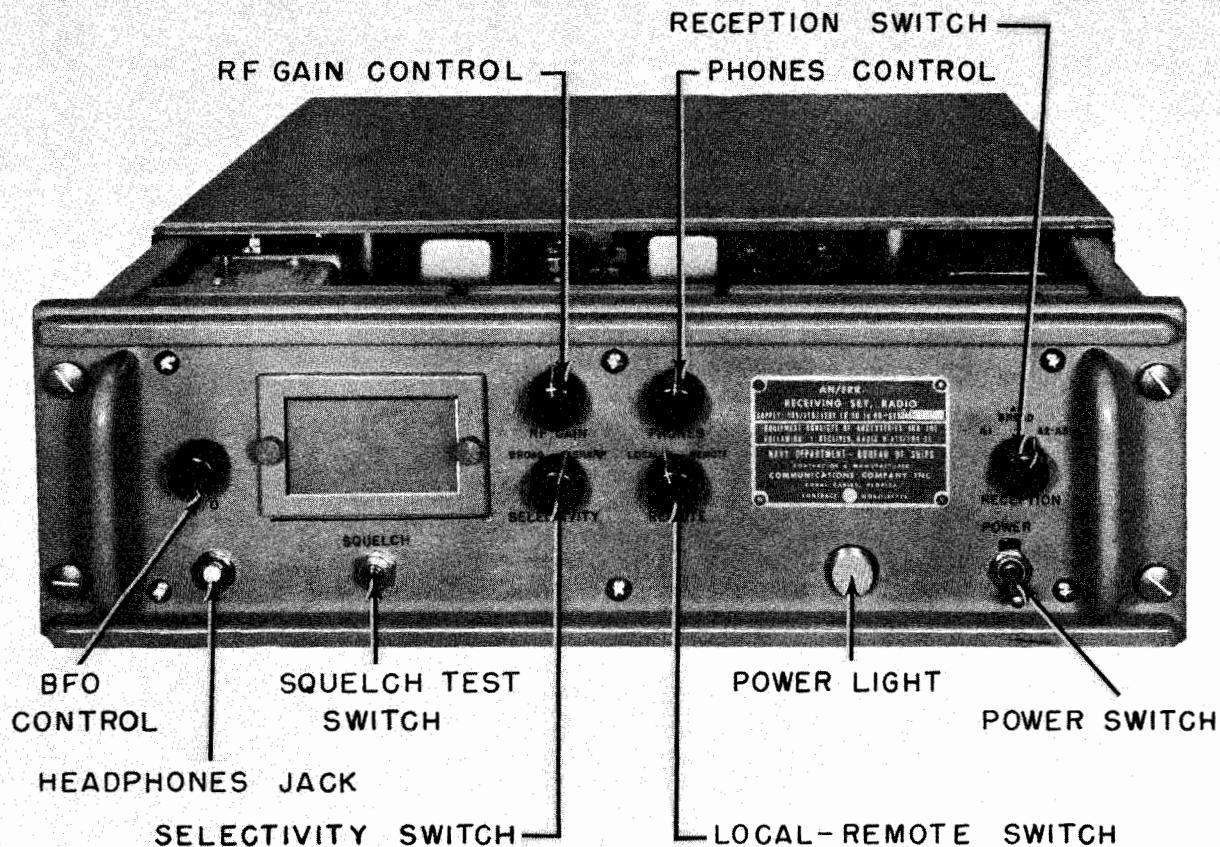

Figure 4-1. Photo—Front View of the Front Panel
a. FRONT PANEL CONTROLS.—These controls are used for turning the receiver ON or OFF; controlling the audio output to the head-telephones; squelch testing; selecting the mode of reception; receiver selectivity, local or remote operation and A1 reception tone. Their locations are indicated in figure 4-1.
(1) BFO CONTROL.—This control (R406) functions only when the receiver is operating on A1 or A1 BROAD. It varies the frequency of the BFO oscillator over a range of approximately 4000 cycles. This control should be at zero beat at approximately 50% rotation. The BFO transformer (T205) with an on-frequency signal near 50% rotation of the BFO control should give a beat note adjustment of approximately ± 1500 cycles.
(2) HEAD-TELEPHONE JACK.—This jack (J404) is provided for listening with 500 to 600 ohm head-telephones. When the PHONES level control (R404) is set at maximum level (clockwise), the output from the head-telephone jack will be about one percent of the power delivered to the AUDIO receptacle when its load is 600 ohms. Accordingly when the receiver is delivering 1.5 watts into a 600 ohm load, the maximum audio available at the head-telephone jack is 15 milliwatts into 600 ohm phones. Low impedance speakers and head-telephones below 300 ohms should not be plugged into this receptacle.
(3) SQUELCH TEST SWITCH.—This is a momentary operated push button switch (S402), used to disable the receiver squelch or to receive signals which are too weak to open the squelch. This switch is only operative in the A2-A3 position. The switch is normally open. If the SQUELCH threshold control (R217) has been adjusted to a point where the squelch is always open, the squelch test switch will have no effect.
(4) RF GAIN.—When the receiver is operating on either A1 or A1 BROAD positions, this control (R405) is operative and applies an adjustable amount of negative voltage to the AGC line which can vary the receiver gain over 100 db.